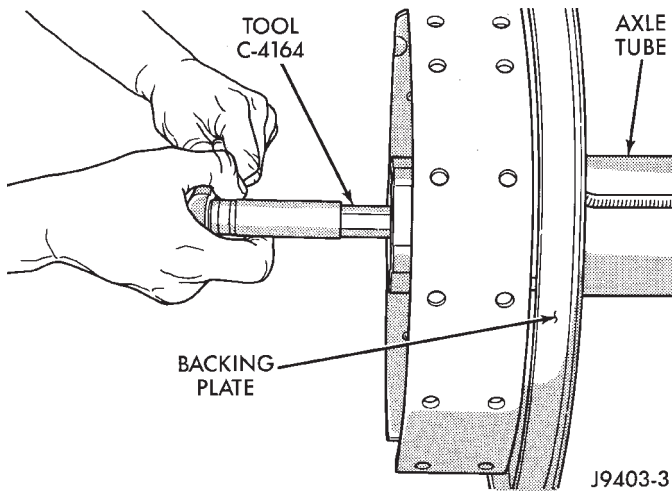

Fig. 18 Threaded Adjuster Tool
(3) Remove bearing threaded adjuster lock from each bearing cap. Loosen the bolts, but do not remove the bearing caps.
(4) Loosen the threaded adjusters with Wrench C-4164 (Fig. 18).
(5) Hold the differential case while removing bearing caps and adjusters.